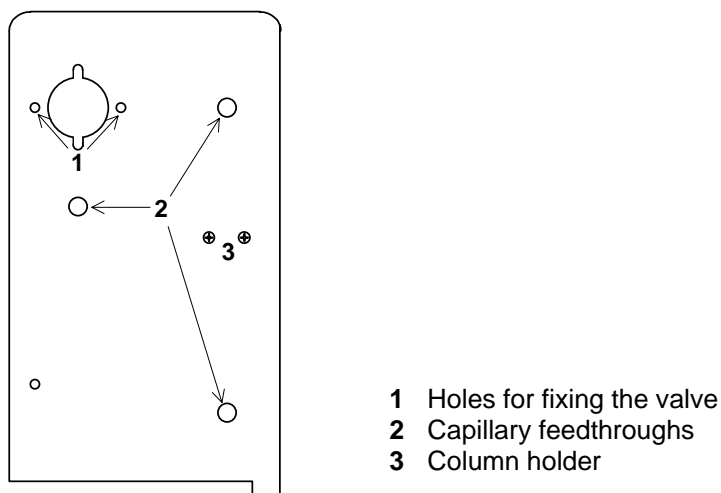

Fig. 7 Universal Mounting Bracket for valve attachment
Use M4 screws to secure the valve with the tapholes on the rear panel of the valve (1) Fig. 7. The feedthroughs (2) are used for capillaries and position (3) is where the column holder is secured.